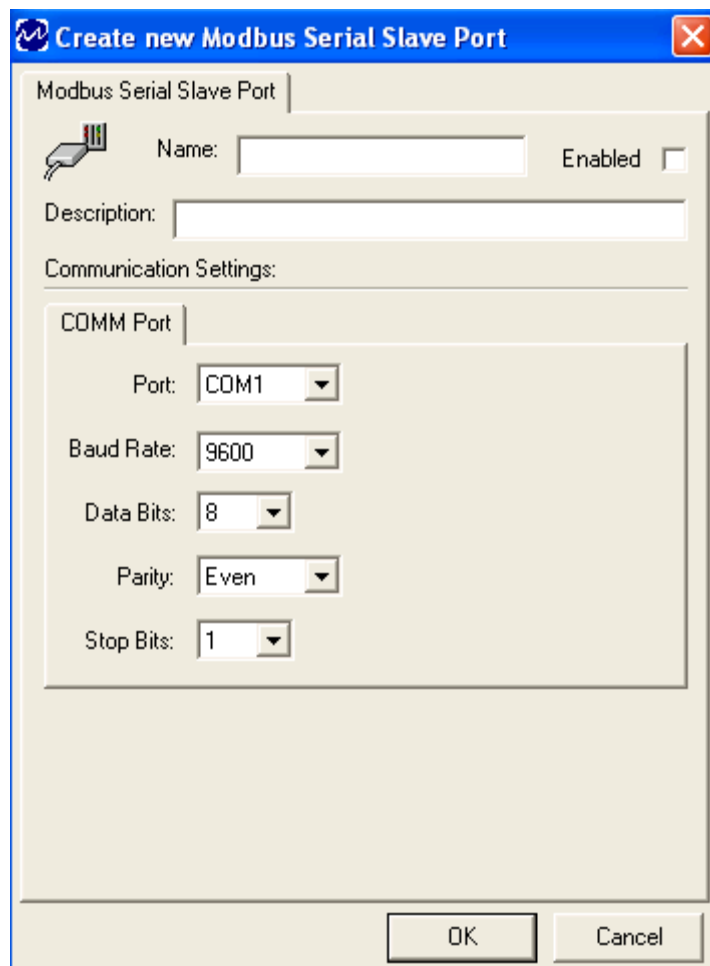

Figure 7 - Create New Modbus Serial Slave Port Window
The **Create New** window (Figure 7) displays the settings available for a connection to a **Modbus Serial Slave Port**.
- The **Create New** window appears (Figure 7).